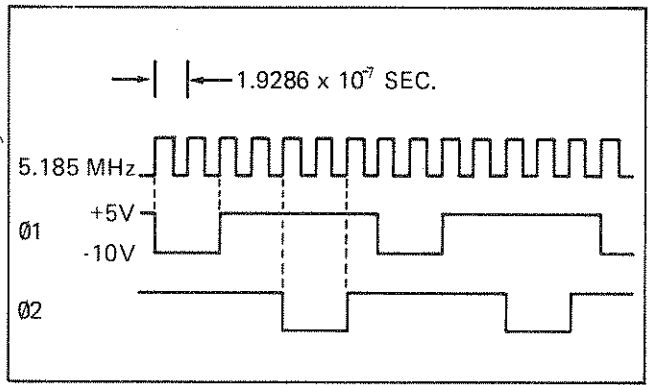

Figure 3-3. Two Phase Clock Timing Diagram
3-24. In operation, crystal Y1 provides the time base (1/5.185 MHz) for a free-running oscillator. Counter U4 divides the oscillator output by seven and presents its Q1 (2) and Q2 (4) outputs to gates U3B (Ø1) and U3C (Ø2) for decoding. The decoded outputs are then presented to U2 where the two TTL output signals are shifted to the +5 and -10 volt levels required by the microprocessor set. The timing of the 2-phase clock is shown in Figure 3-3.